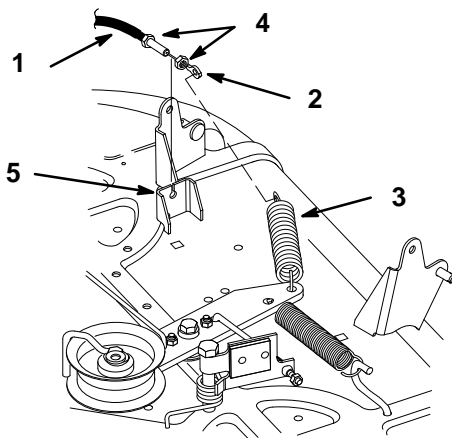

Figure 44
10. Remove first jam nut and thread second jam nut onto the blade control (PTO) cable all the way. Rout cable through slot in deck bracket and thread second jam nut onto cable (Fig. 44).
11. Hook end of blade control (PTO) cable onto idler spring (Fig. 44).